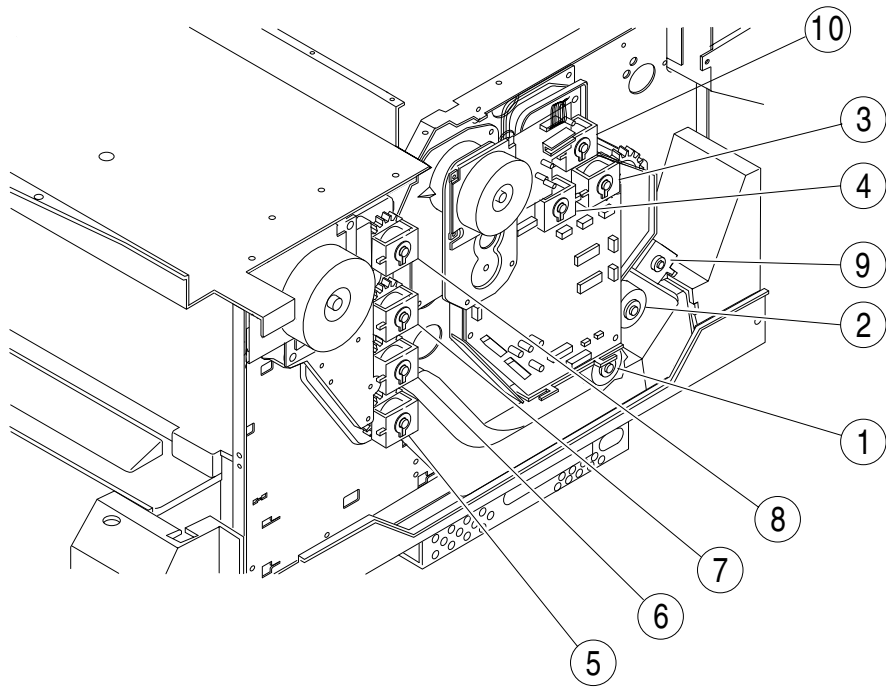

Fig. 4-31
(3) Clutches (Refer to Fig.4-31.)